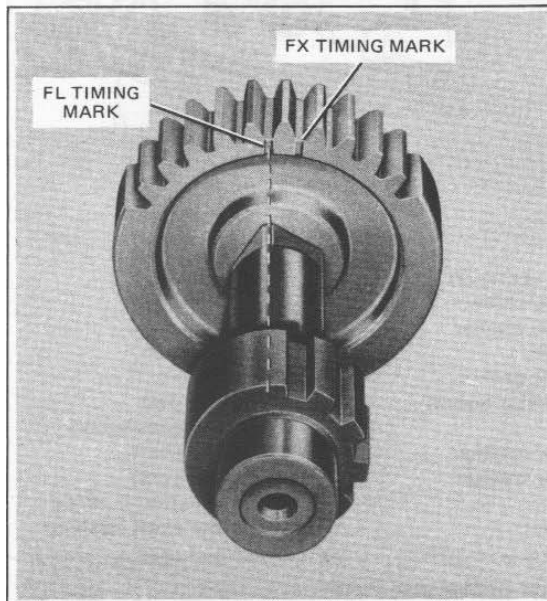

Figure 4-13. Timing Shifter Gear
DISASSEMBLING SHIFTER COVER (Figure 4-13)
Note position of the timing mark (Figure 4-13). This is the proper timing alignment.
Position shifter gear (29) and spring (30) in case, so side of gear with timing mark is toward case. Insert shifter shaft (31) so parts are timed as shown in Figure 4-13 and tap parts together. Insert cotter pin (28).